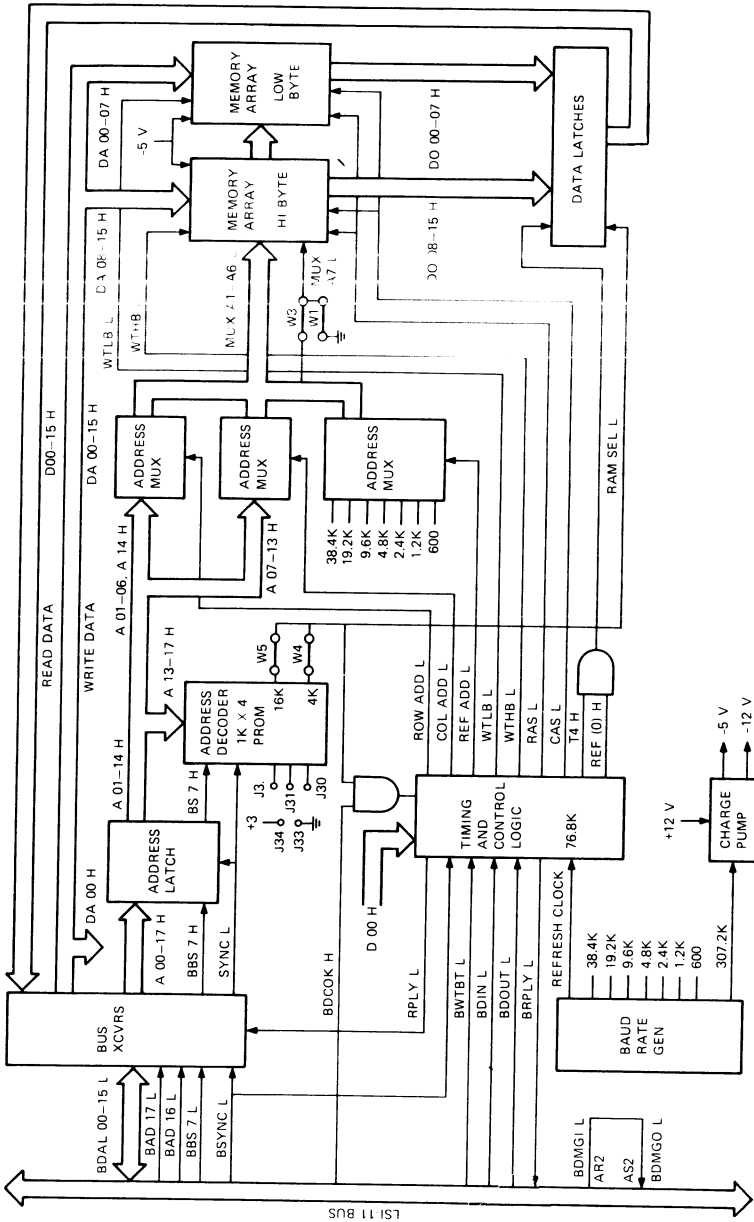

Figure 20-14 MXV11-A ROM Block Diagram
**Memory Write** — When in a memory write operation (or the write portion of a DATIO(B) cycle), the addressing portion is similar to the read cycle addressing. After the addressing portion of the cycle is completed, the master device asserts BDOUT L, and BWTBT L either goes passive (high) if a DATO (word) write cycle is performed, or remains asserted if a DATOB (byte) write cycle is performed. Word/byte select logic responds to the DATO cycle by asserting WTLB L and WTHB L for the duration of the cycle, enabling DA00-15 H to be written into the address location in all memory chips. When in a DATOB cycle, with BDAL00 L asserted, DA00 H (high byte) will cause WTHB L to be active, enabling the writing of DA08-15 H into the eight chips constituting the high (odd) byte of the memory array. Similarly, if BDAL00 L is unasserted, DA00 H will be unasserted and cause WTLB L to become active, enabling the writing of DA00-07 H into the eight chips constituting the low (even) byte of the memory. The reply logic also responds to the active BDOUT L signal by asserting BRPLY L, indicating that data have been written, thus completing the data transfer.
**Memory Refresh** — Dynamic MOS memory integrated circuits in the memory array require periodic refreshing to retain stored data. This is accomplished by forcing a RAS-only operation on each of 64 row addresses in a 4K memory, or 128 row addresses in a 16K memory. Each row address is refreshed once every 0.83 msec for 4K memory and 1.66 msec for 16K memory. On-board refresh circuits eliminate the need for refresh signals on the LSI-11 Bus. Figure 20-14 shows the signals required for the refresh operation. The refresh clock (76.8K Hz) is obtained from the baud rate generator and applied to the timing and control logic to produce REF ADD L once every 13 microseconds. REF ADD L is applied to the address multiplexer along with seven clock signals (38,400, 19,200, 9600, 4800, 2400, 1200, and 600 Hz) obtained from the baud rate generator. These signals increment MUXA1-A7 L each time REF ADD L becomes active, thus sequentially refreshing all row addresses in the memory. REF (0) H is inactive during a refresh operation to prevent memory array outputs DO00-15 H being stored in the data latches. In addition, refresh logic will inhibit the assertion of BRPLY L during a refresh operation.
**Addressing** — A master device can address any 16-bit word in the ROM by placing the appropriate address bits on the BDAL01-13 L lines during the addressing portion of the DATI bus cycle. Figure 20-14 shows the data/address lines and bus interface signals required for accessing the read-only memory.